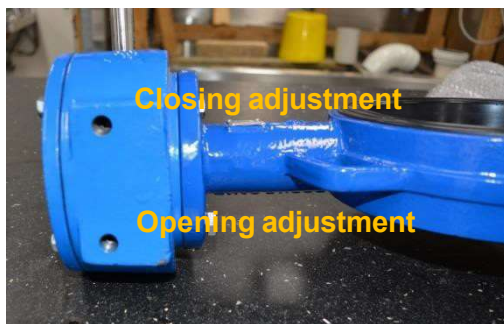

Figure 4
- Looking at the end of the gear operator (See Figure 4), the top screw is for close adjustment.
- Looking at the end of the gear operator (See Figure 4), the bottom screw is for open adjustment.